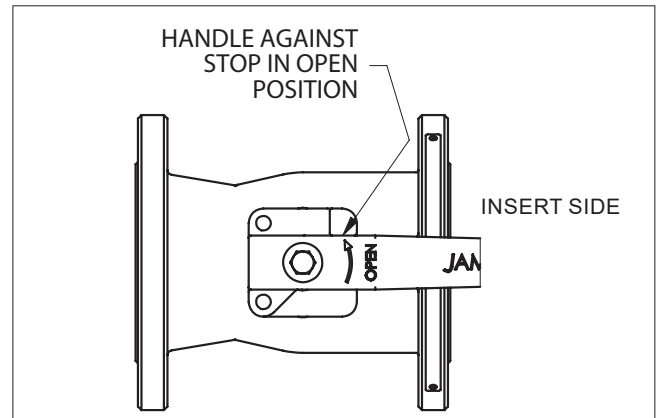

Figure 13. Handle Stop
5. Install the handle screw (6) and washer (5). Tighten handle screw (6) to value listed in **Table 5**.
7. Rotate handle bracket (2) until the handle stop contacts the side of the handle (1) (see **Figure 13**).